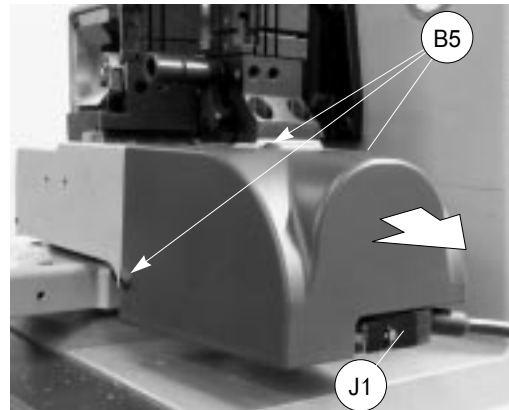

Fig. 58
- 3) disconnect the (J1) Y axis cable from the carriage (fig. 58).
- 4) remove the Y axis carriage cover by unscrewing the 3 (B5) locking screws and pull the cover in the direction shown in fig. 58.